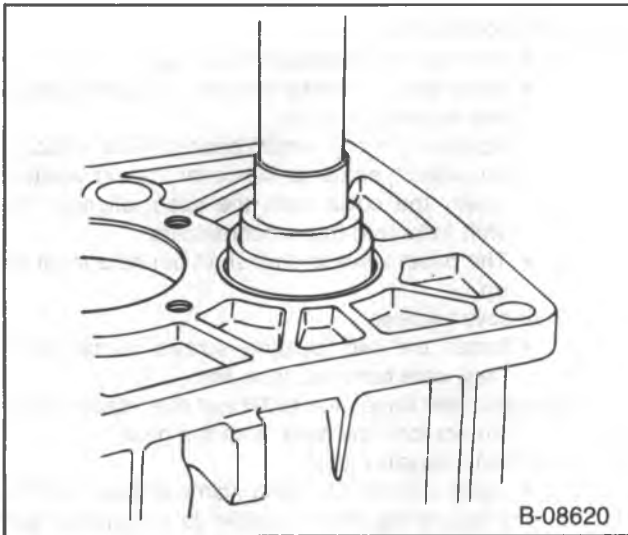
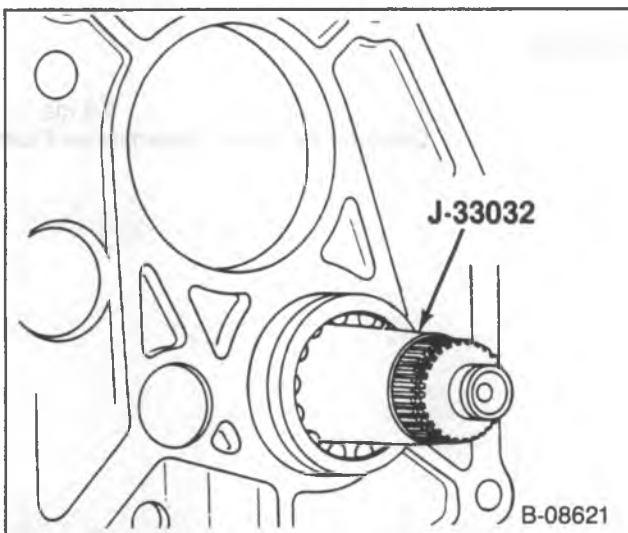

Figure 33—Installing the Counter gear Front Bearing
Figure 34—Installing Tool J 33032
1. Countergear front bearing (642) (figure 33).
2. Countergear thrust washer (641).
3. Countergear (604) and the rear bearing spacer (636).
4. Countergear rear bearing (635) (figures 34 and 35).